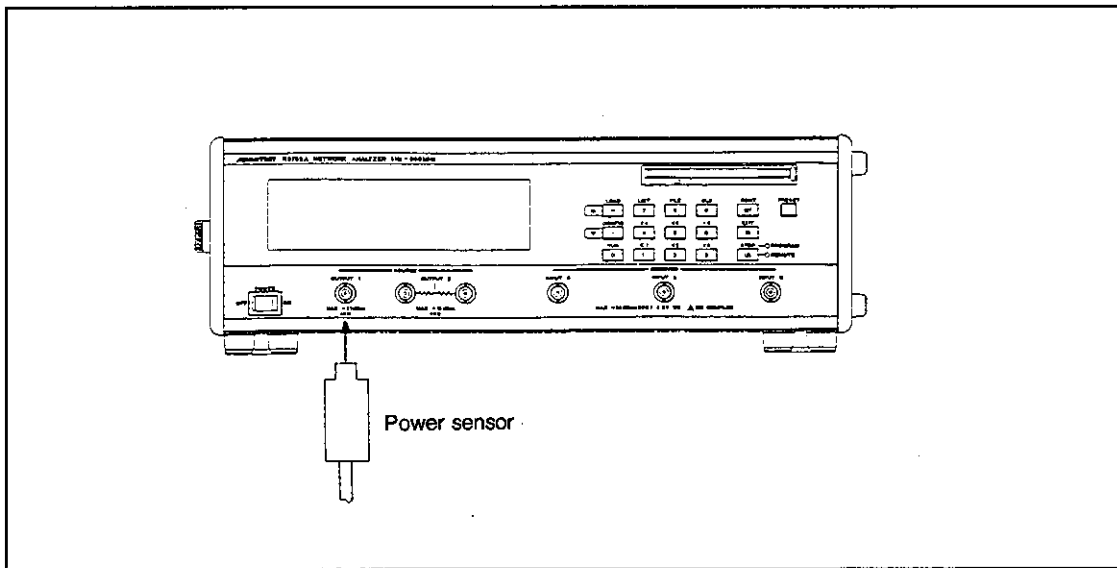

Figure 5-2 Output Level Accuracy and Flatness
- ① Set up the network analyzer as shown in Figure 5-2.